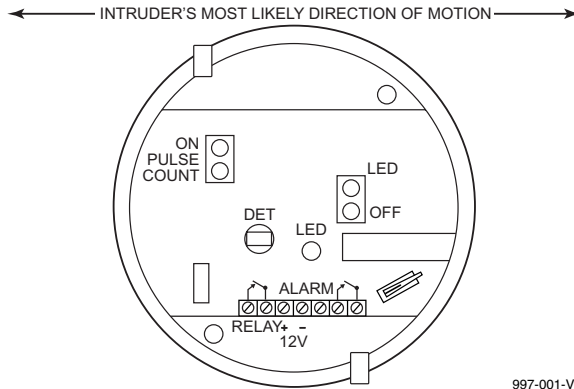

Figure 1. Optimum Mounting Orientation
This passive infrared motion detector is a ceiling-mounted unit employing a 360°, 31-zone Fresnel lens and offering an efficient protection pattern for commercial and residential applications. The detector senses sudden and slight changes in temperature within the area of detection; thus, when an intruder crosses or enters any zone, the resulting change in infrared energy is detected for alarm reporting. Best coverage will be obtained if the PIR is mounted such that the likely direction of intruder motion is in the direction shown in Figure 1.
**Important Note:** Optimum mounting orientation is shown in Figure 1. Mount the PIR in such a manner that the likely path of an intruder is in the direction shown. This will ensure maximum effectiveness of the Alternate Polarity feature.